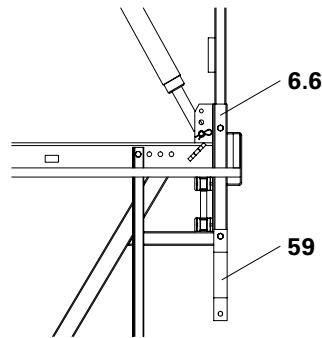

Fig. B1.34a
1. Attach Tension Anchor Connector CB (59) using Bolt M16 x 100, SW 24 to the vertical tube of the Climbing Bracket CB 160 (6.6). (Fig. B1.34a)